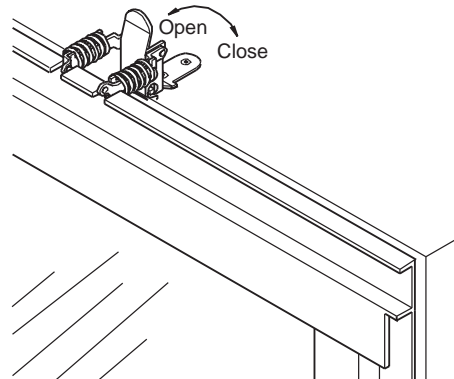

Figure 41 - Removing Glass Door
3. To open the glass door, open the pairs of latches located on the top and bottom of the firebox (see Figure 41). *Note:* Use caution when opening these latches.